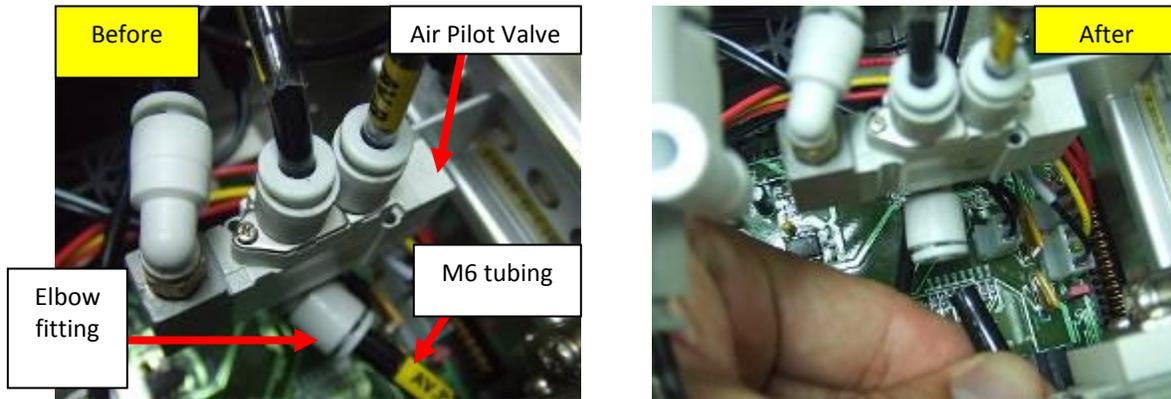

Figure 7: Disconnecting M6 tubing end from the Air Pilot Valve
- 7. After this, pull out the M6 tubing end that is linked to the fitting of the Air Pilot Valve (Brand: SMC, MPN: SYA3210-C4) as shown in Figure 7.